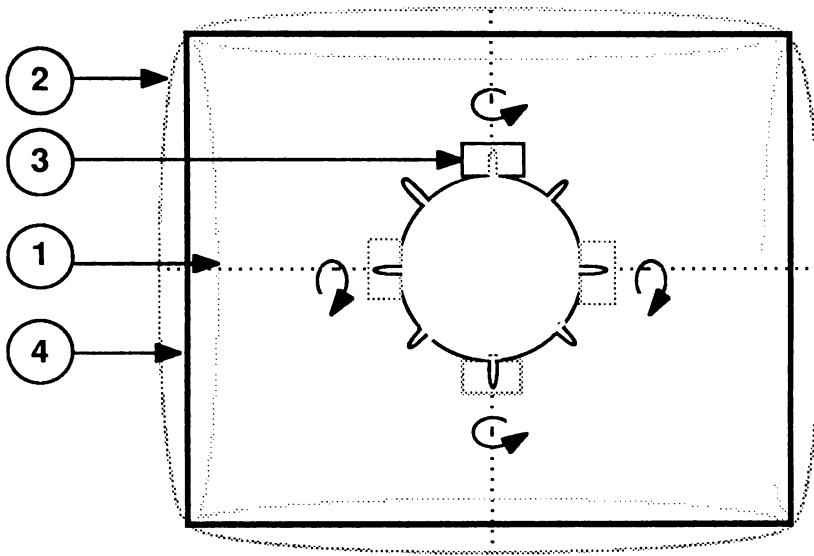
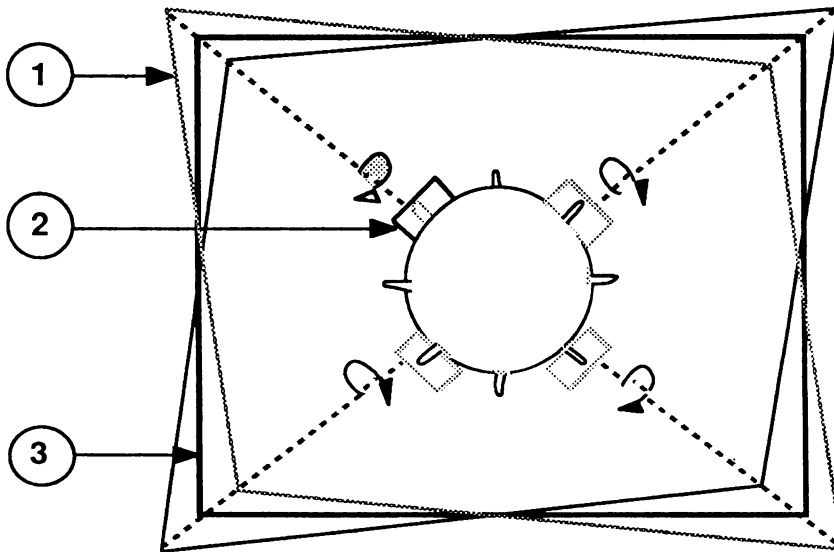

FIGURE 6
FIGURE 7
There are two different geometric distortions that can be seen on the screen. One is called pincushioning and barreling (see Figure 6, #1 and #2). The other is the trapezoidal effect (see Figure 7, #1). Both are adjusted for with the rotary magnets; however, each adjustment is done separately.
If the image shows either distortion shown in Figure 6, #1 or #2, correct it by doing the following:
1. If using the Apple II Peripherals Diskette, select "Test #1" (Dot Pattern) from the menu. If using the ROM card, select Video Pattern (V).
2. Push a magnet on the yoke mounting pin as shown in Figure 6, #3. A magnet should be placed only on the pin that corresponds to the affected area.
3. Rotate the magnet to obtain the desired raster (see Figure 6, #4).
Figure 7, #1 shows the trapezoidal effect. Look at your screen and see if any of the corners exhibit the trapezoidal effect. If any do, then perform the following adjustment:
1. If you are using the Apple II Peripherals Diskette, select "Test #1" (Dot Pattern) from the menu. If using the ROM card, select Video Pattern (V).
2. Push a magnet onto the yoke mounting pin as shown in Figure 7, #2. The magnet should be placed only on the pin that corresponds to the affected area.